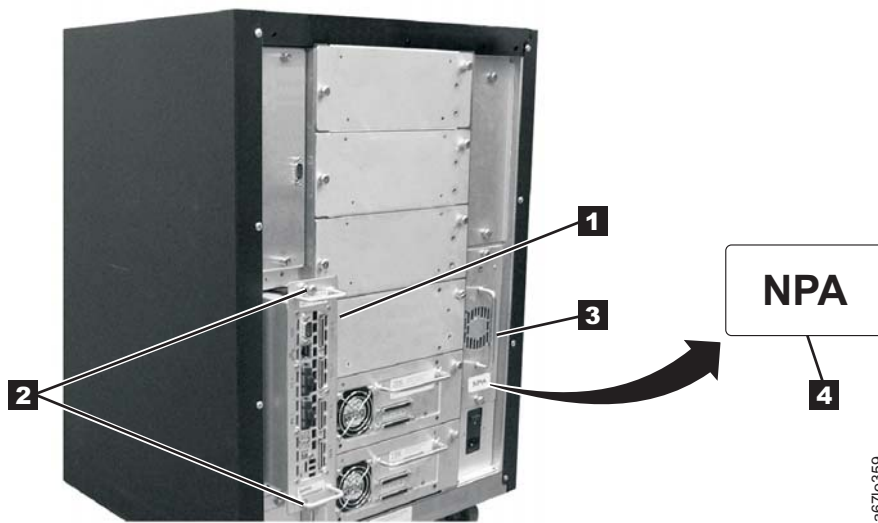

Figure 14-32. Installing a San Data Gateway Module
1. From the rear of the Ultrium Scalable Tape Library, locate the dc power supply (see **3** in Figure 14-32) and examine it for a label:
4. From the rear of the library, locate the slot where you want to install the gateway (see Figure 14-32). Loosen the two captive thumbscrews on the cover plate and remove the cover plate.
5. Slide the gateway into position (see **1** in Figure 14-32) and tighten the two captive thumbscrews **2**.